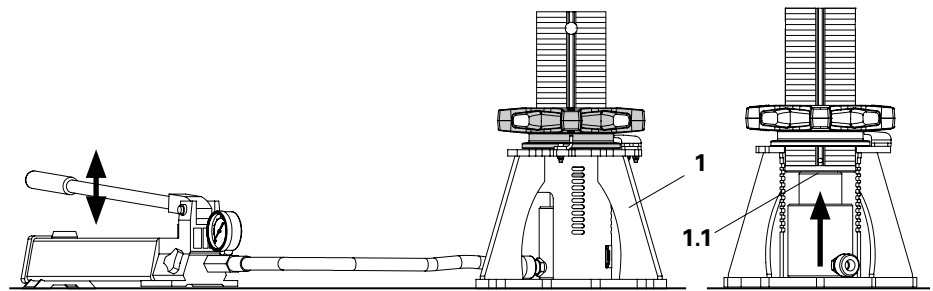

Fig. A5.06
1. Insert hydraulic cylinder into the Lowering Jack (1).
- (Fig. A5.06)